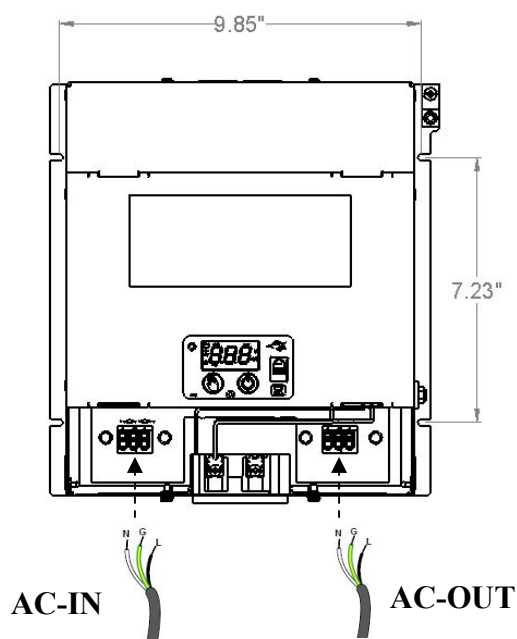

Figure 2 Mounting Hole Pattern
- Inverter can be secured to a flat surface using the side mounting slots. See Figure 2 for mounting hole pattern